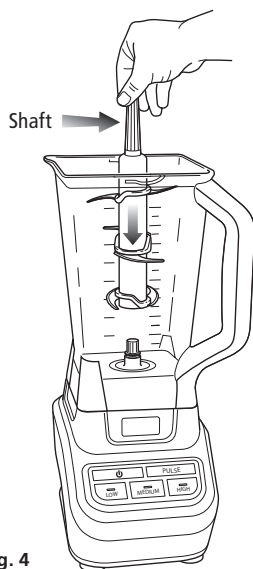

Fig. 4
- 5 Holding the blade assembly by the shaft, place it onto the gear shaft inside the pitcher. (**Fig. 4**) Ensure that the blade assembly fits around the gear shaft and that the blade shaft is standing straight.